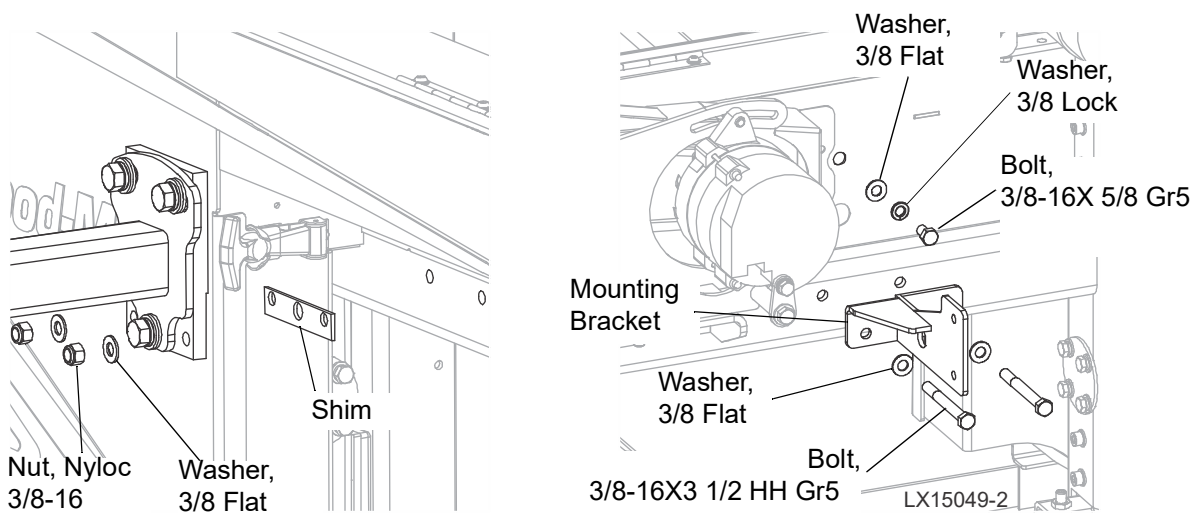

FIG. 1-2
3. Align the debarker hardware into the mounting holes. See Figure 1-2.